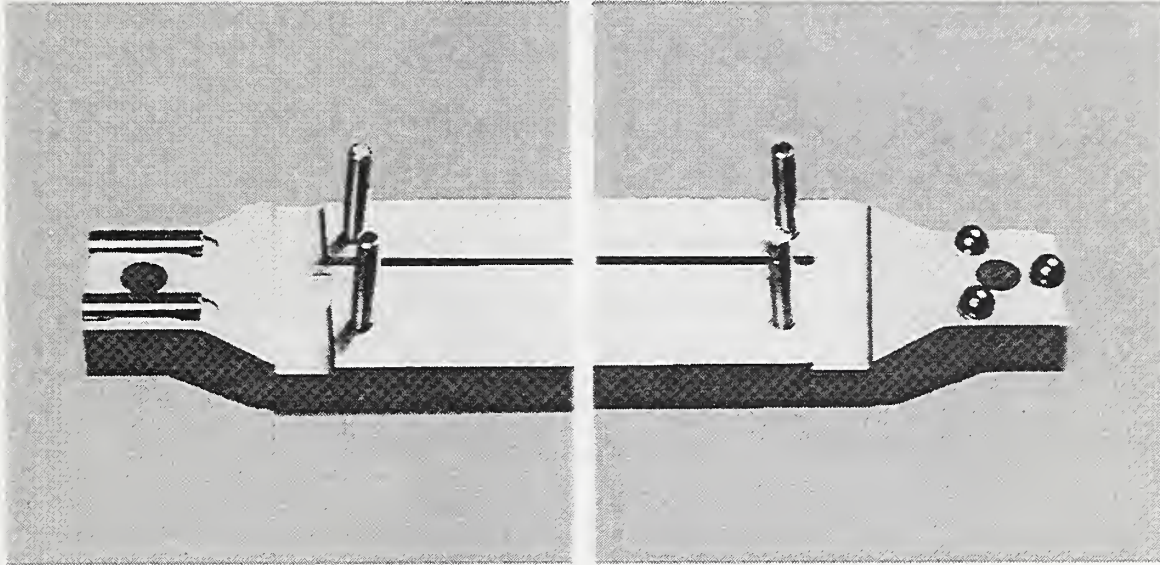

Figure 1. Kinematic ball bar mounts on support arm
7. **INSPECT** the kinematic ball bar mounts to assure no debris is present (refer to Figure 1 on page 3). The magnets may attract chips and filings. Clean if necessary as directed above.